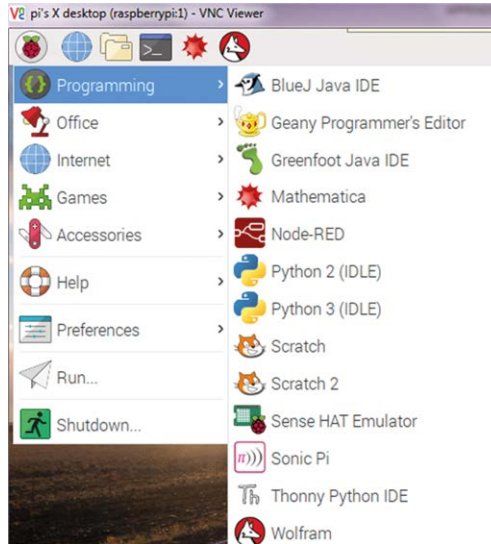

Figure 2.18 Select Python 2 programming
- Click Programming and select Python 2 or Python 3 (see Figure 2.18)